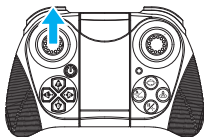
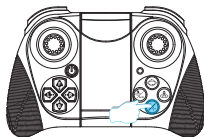

Figure 2
Figure 3
6.1 Press the upper and lower ends of the battery with your fingers according to Figure 1, then slide the battery down according to Figure 2, and then remove the battery.
Push the left control lever on the remote control upward (Figure 2). At this time, the aircraft can take off normally. After taking off, all the indicator lights of the aircraft will always be on. During the flight, whether you short press the  key, the aircraft will stop flying (Figure 3).